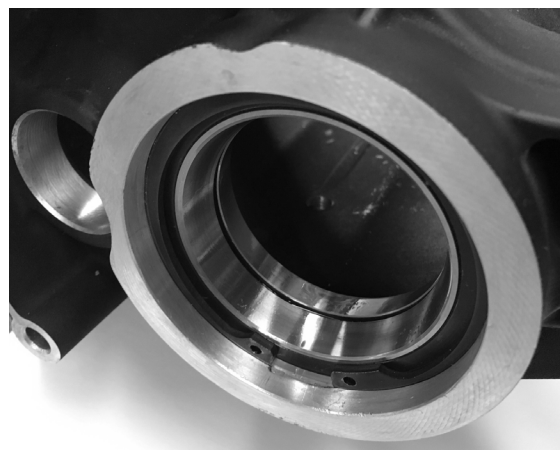

FIGURE 17 | LIGHTLY OIL BEARING RACES BEFORE INSTALLING THE MAIN DRIVE GEAR
1. Before installing the main drive gear, apply a thin coating of transmission oil to the tapered bearing races and the main drive gear O-ring; see figure 17. A thicker oil could give you a false reading when checking endplay.